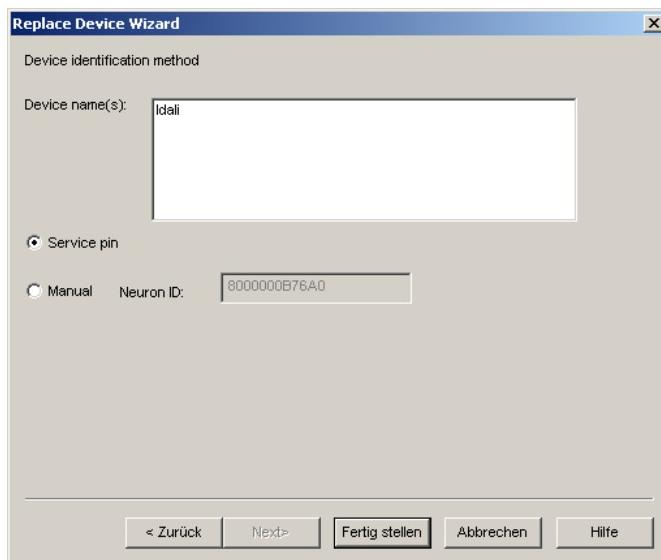

Figure 94: Select Service Pin and click Finish.
6. Select the **Service pin** method and click on **Finish** as shown in Figure 94.